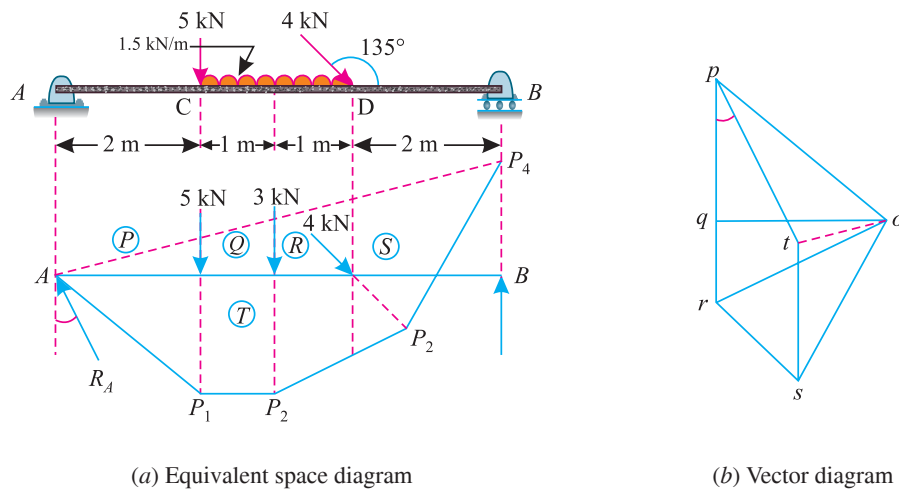

Fig. 12.20.
6. Now the lengths  $tp$  and  $st$ , in the vector diagram, give the magnitudes and direction of the reaction  $R_A$  and  $R_B$  respectively to the scale as shown in Fig. 12.20 (a) and (b). By measurement, we find that  $R_A = tp = 6.5 \text{ kN}$  ;  $R_B = st = 5.0 \text{ kN}$  and  $\theta = 26^\circ$  **Ans.**